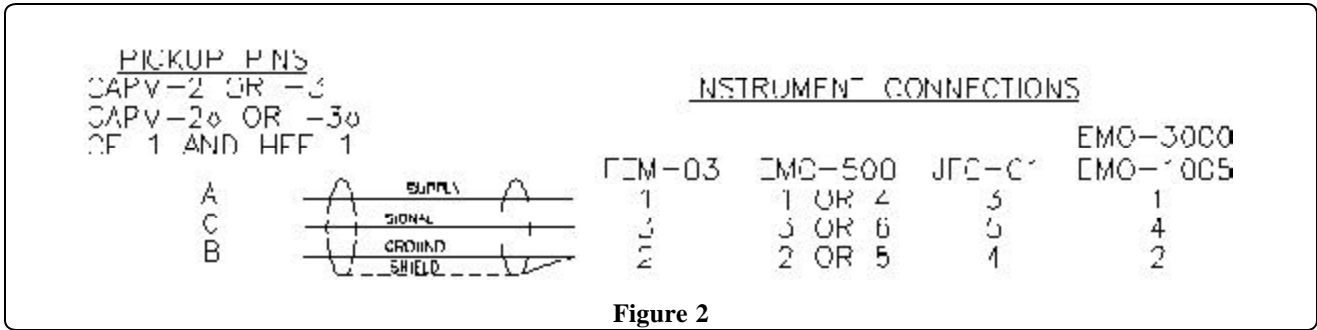

Figure 2
1. Detach the wiring connector from the sensor. Using a short wire, repeatedly touch pin A to C inside the wiring connector. These simulated pulses should register at the instrument. If this doesn't occur, verify that the wiring connections are set up as shown in the Figure 2 above and check the instrument. If using a non AW Company instrument, check the specifications for signal compatibility.